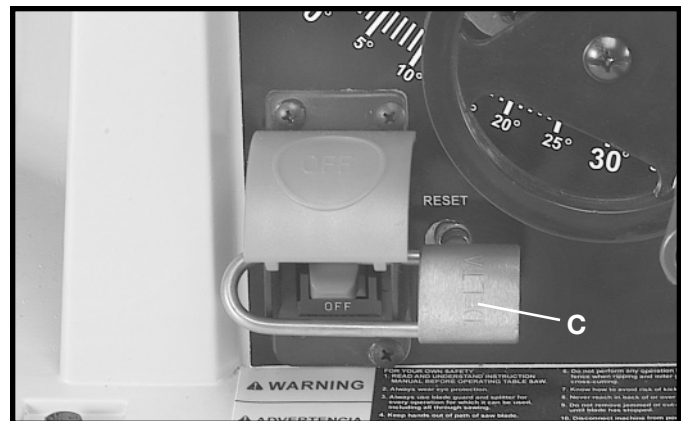

Fig. 38
IMPORTANT: WHEN THE TOOL IS NOT IN USE, THE SWITCH SHOULD BE LOCKED IN THE OFF POSITION USING A PADLOCK (C) FIG. 38, WITH A 3/16" DIAMETER SHACKLE TO PREVENT UNAUTHORIZED USE.